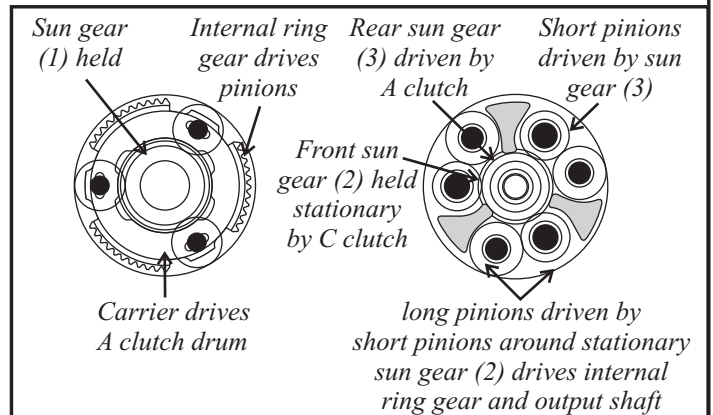

Figure 9
**Powerflow in 2nd gear:** With the A clutch still applied, the turbine shaft is driving the A clutch drum in a reduction. The A clutch drum continues to drive the small rear (#3) sun gear in the double planetary output carrier. The D clutch is released and the C clutch is applied which holds the larger front (#2) sun gear in the double planetary output carrier stationary. The reaction of the short pinions being driven by the A clutch and the long pinions being forced to walk around the stationary sun gear, causes the internal ring gear and output shaft to rotate in an approximate reduction ratio of 2.340:1 (Figure 9).